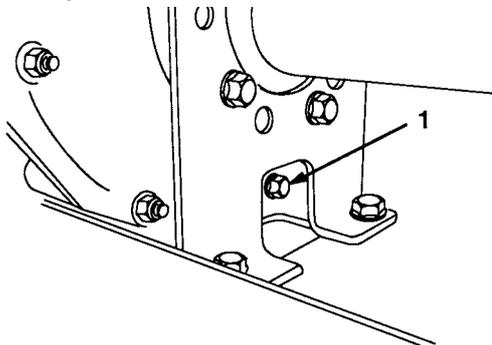

Figure 27
2. Remove drain plug from right side of reservoir (Fig. 27) and let fluid flow into drain pan. Reinstall and tighten the plug when fluid stops draining.